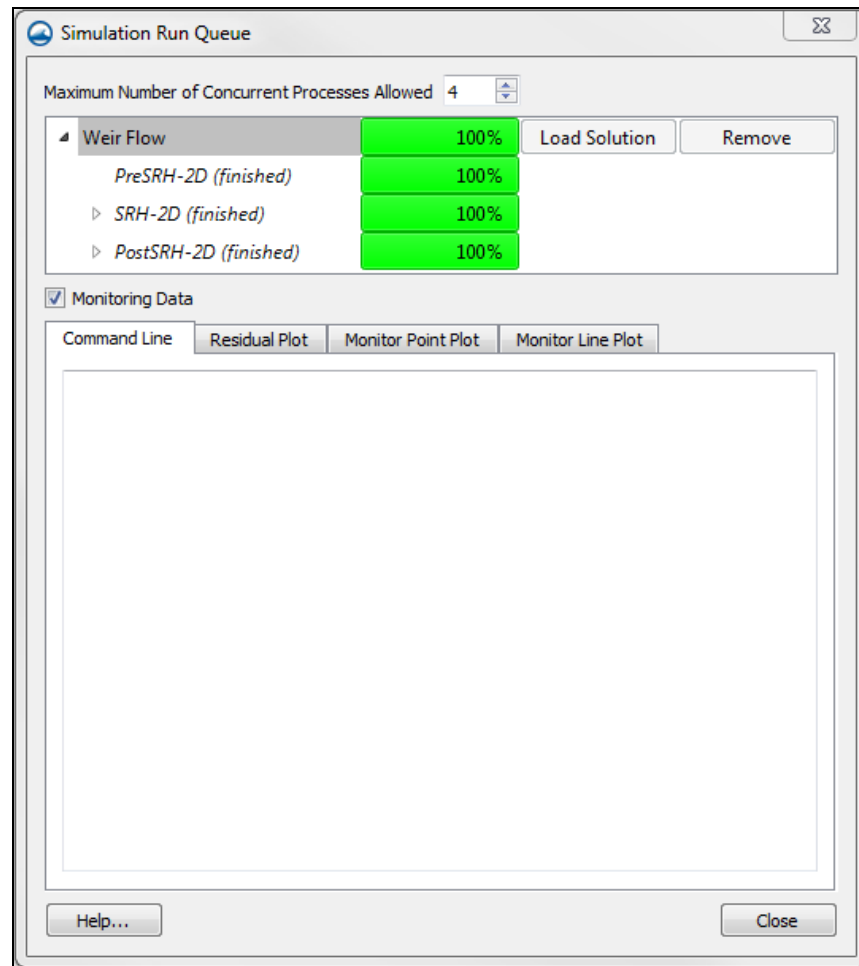

Figure 5 SMS Simulation Run Queue
6. Click **Load Solution**, as shown in Figure 5. The solution datasets will now be listed in the Project Explorer under the folder “ Weir Flow”.